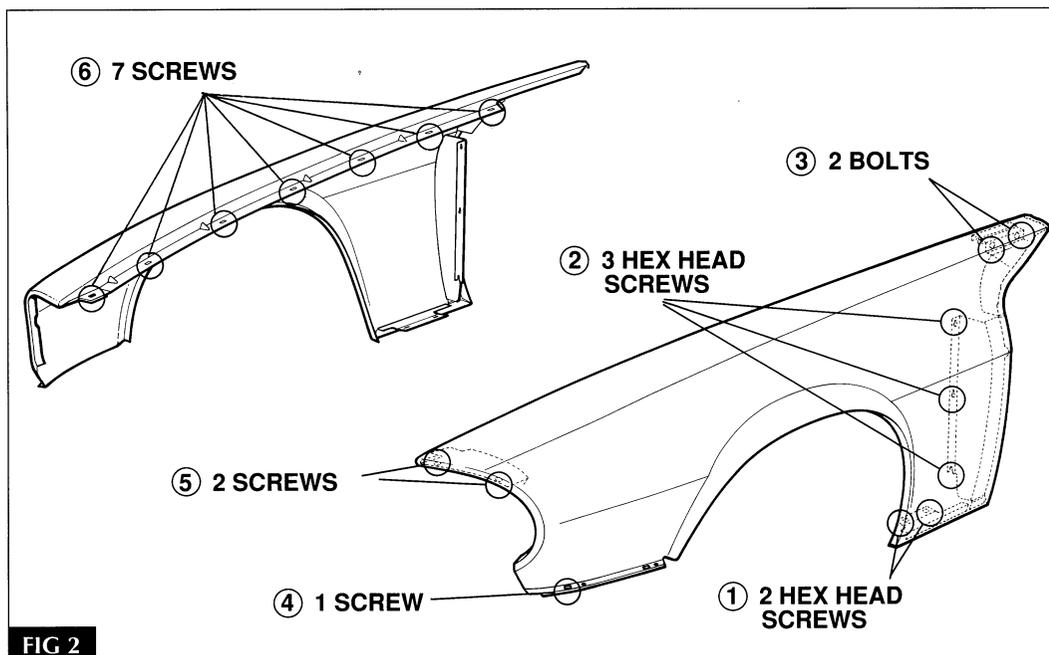

FIG 2
- 12 Remove the fender attaching hardware in sequence [FIG 2].
When reinstalling the fender, apply SEALANT A to the threads of the seven upper fender screws, the two angle bracket bolts, the three rear screws, and the two rocker panel screws; refer to FIG 2, page 4.